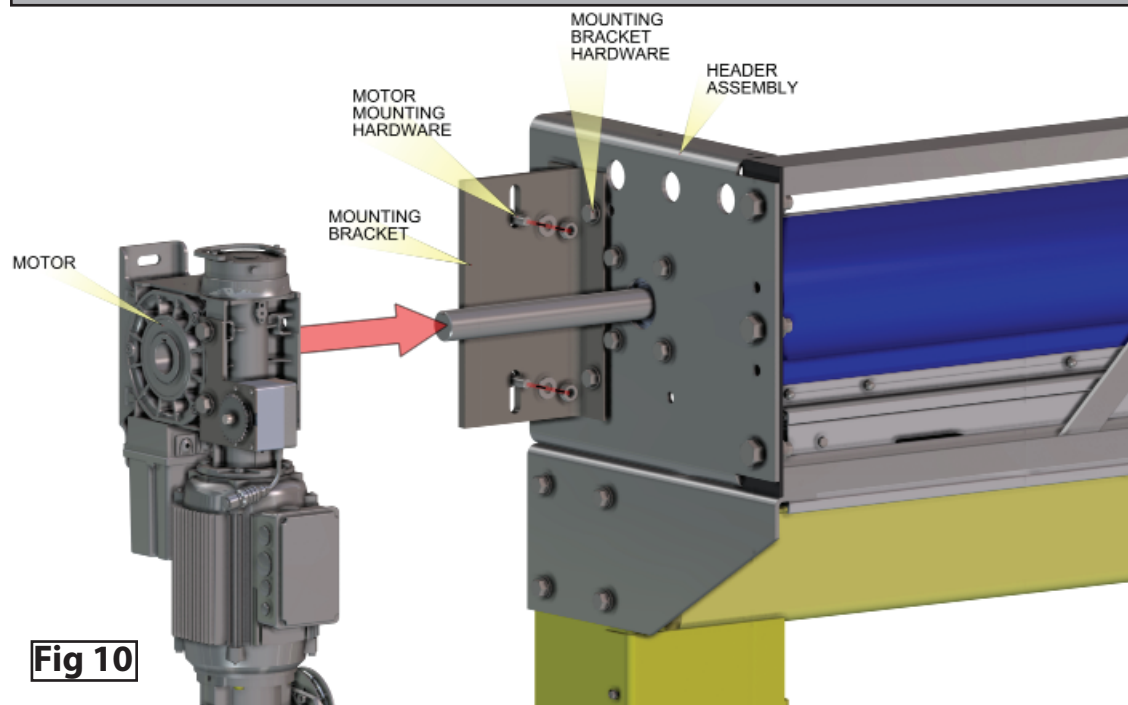

Fig 10
- Remove pre-installed motor mounting hardware from the mounting bracket as shown in FIG 10. Loosen the mounting bracket hardware so the bracket can slide back and forth as needed. See FIG 10.
- Slide motor onto shaft as shown in FIG 10.